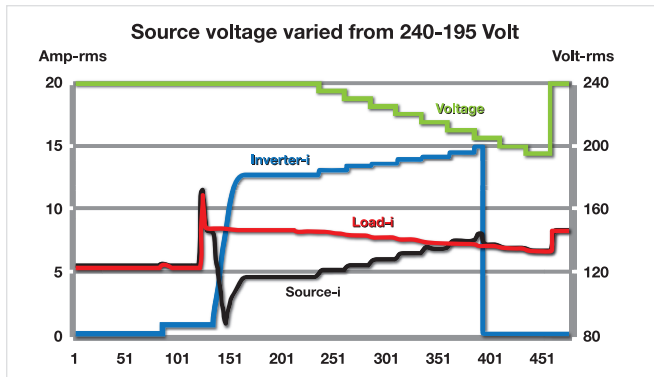

Figure 10: Current flow as the voltage steps in the Transient List are executed
9) to produce the overall system behavior shown in Figure 10. The power source is programmed to step down from 240V to 195V in 5V increments, commencing around 20 seconds after the inverter has synchronized and come on line. The horizontal axis in Figure 10 is calibrated in increments of 0.2 seconds, such that 500 windows are measured over the 100-second duration of the test. As shown by the vertical axis, the load (red) increases from 5A to 8A about 25 seconds after data acquisition begins. Within a few seconds, the inverter (blue) comes on-line and starts to supply current. As the source voltage (green) steps lower, the inverter increases its current output to almost 15A. Once the voltage falls below the lower limit of 211V, the inverter goes offline and the source smoothly picks up the load current.